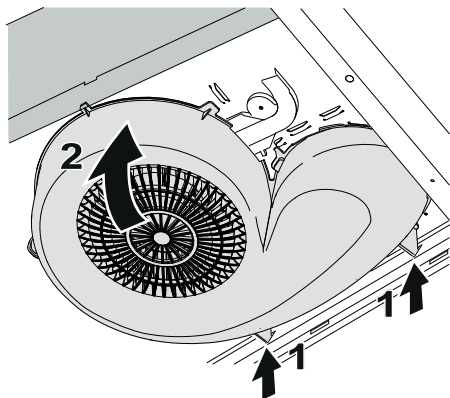

Fig. 7
Refit the blower by inserting the supports in the rear of the fan (1). Bend up the blower (2).Fig. 7